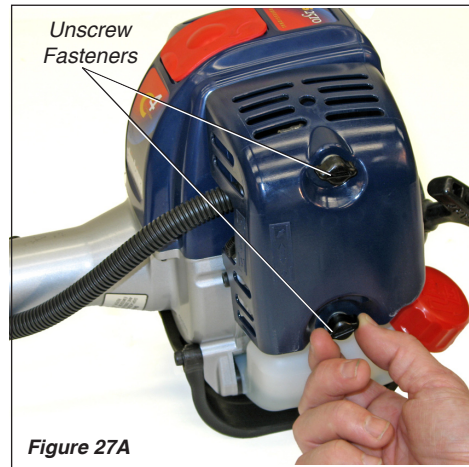

Figure 27A
1. Remove the air cleaner cover by loosening the thumb screws and lifting up. See Figure 27A.